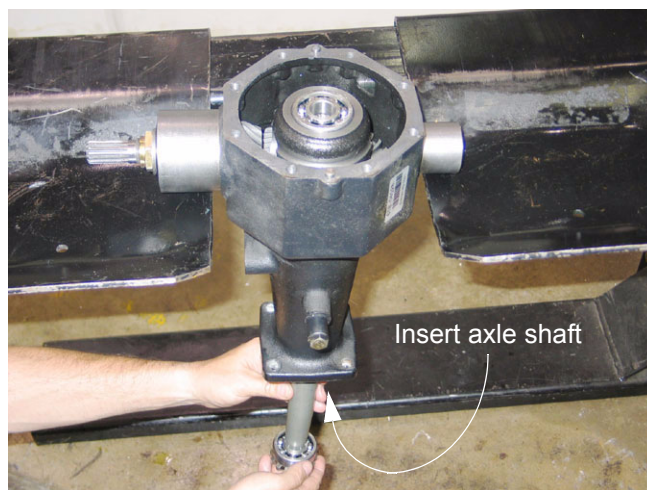

Figure 9.45
- 9.45. Install the right side axle shaft (with outer bearing, washer, and pinion gear) into the right side axle housing from beneath. See Figure 9.45.